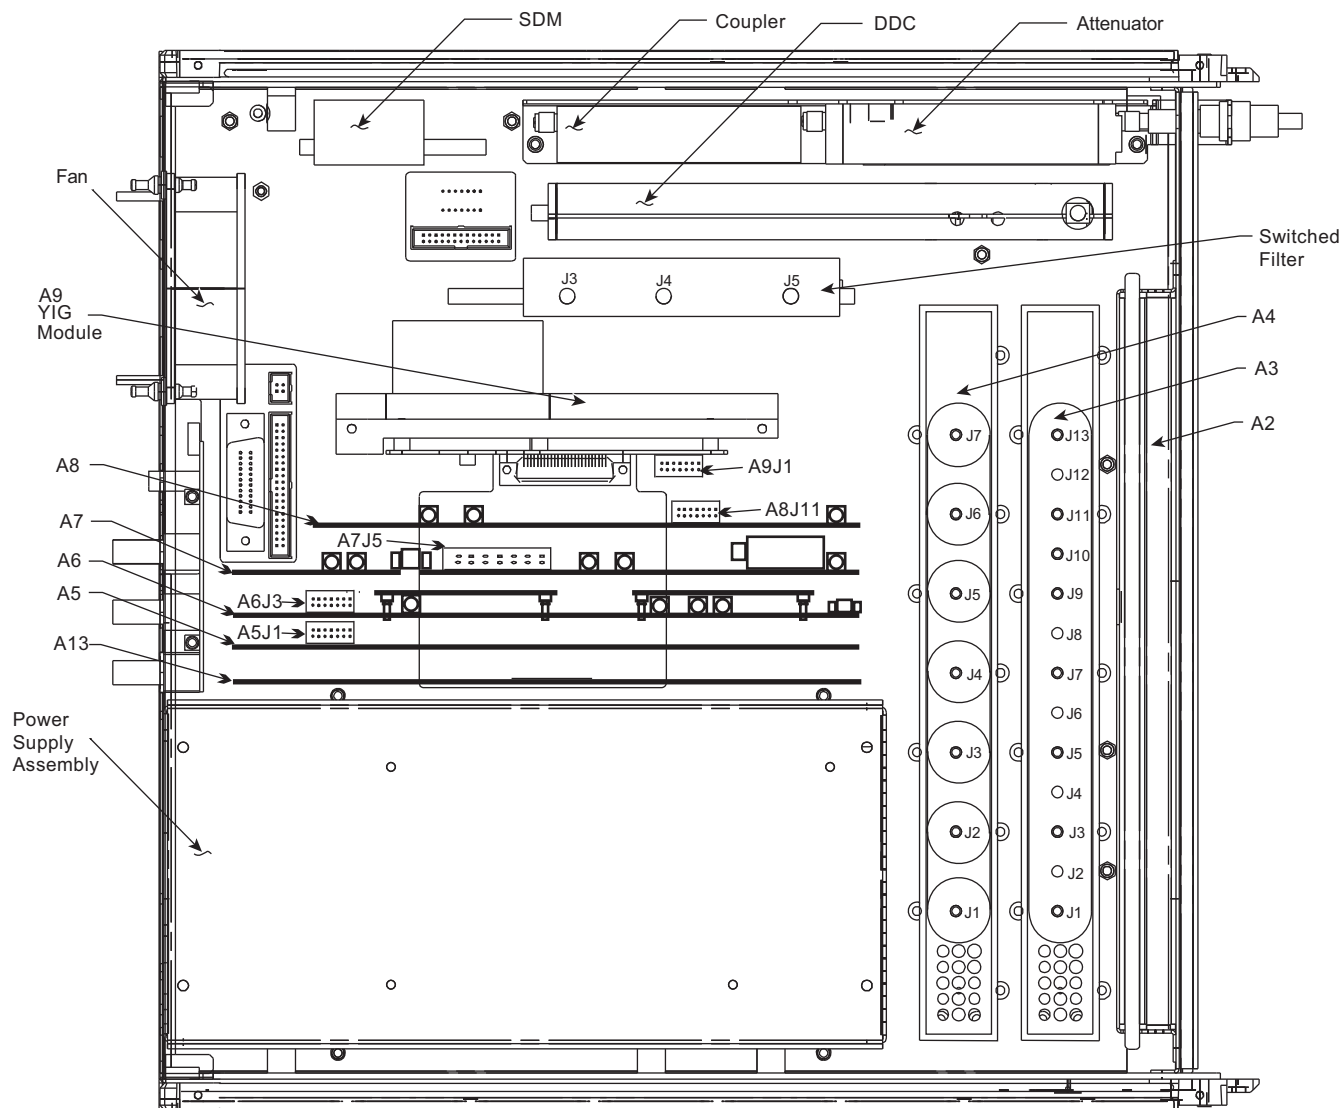

Figure 7-10. Locations of A5, A6, A7, A9, and A13 PCB Assemblies
1. Grasp the A5 PCB by the edges and pull up to remove the board from the chassis connector. See Figure 7-10 for locations of the A5, A6, A7, A8, A9, and A3 PCBs.
1. Grasp the A13 PCB by the edges and pull up to remove the board from the chassis connector. See Figure 7-10 on page 7-18 for locations of the A5, A6, A7, A8, A9, and A13 PCBs.